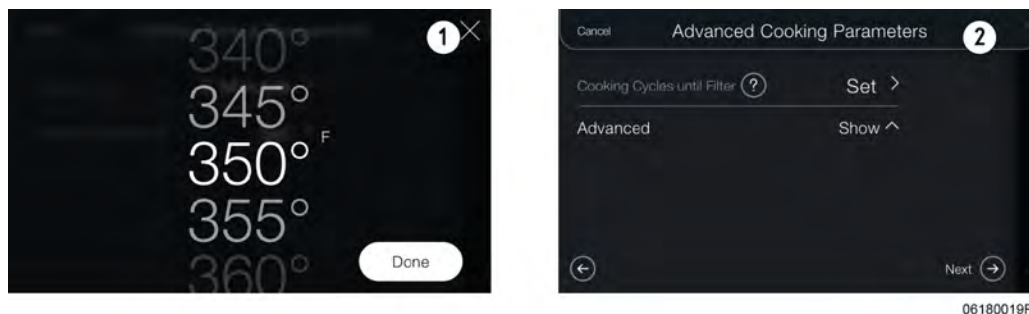

Figure 5-11
2. **Cooking Temperature** - Tap **Select**. Swipe up or down to select the cooking temperature (1) Figure 5-11 , page 47. Tap **Done**, and then tap **Next** to continue.
3. **Cooking Cycles until Filter** - Determines how many of this food item can be cooked before an express filter prompt is displayed (2) Figure 5-11 , page 47. Tap **Set**, and then swipe up or down to select cooking cycles until filter. Tap **Done** to continue.